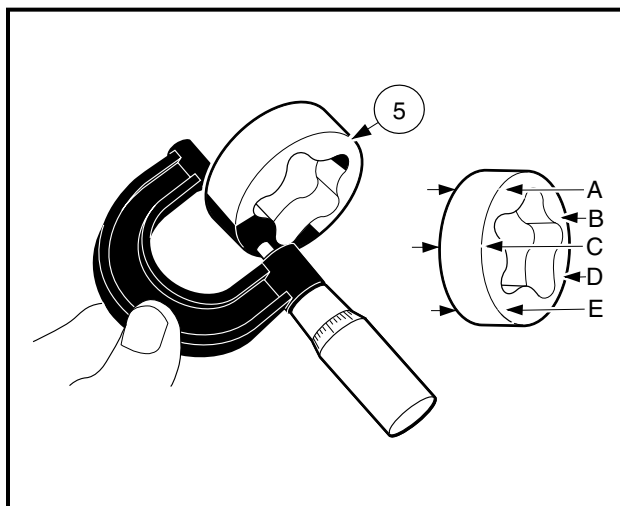

Figure 18-61 Measure Thickness of Outer Rotor
- 4.4. Use a micrometer to measure the thickness of the outer rotor at several points (**Figure 18-61, Page 18-30**).